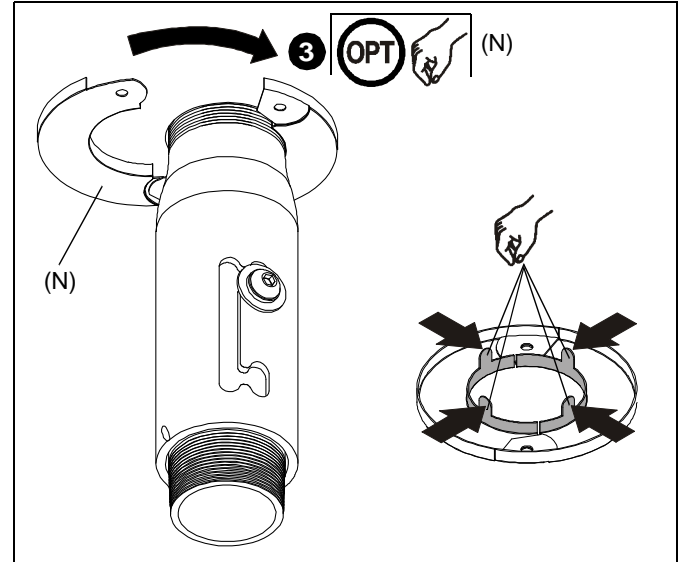

Figure 12
3. **OPTIONAL FOR INSTALLATION ABOVE EXISTING TILE:** Install NPT ring (N) on extension column below ceiling tile. (See Figure 12) If necessary, bend four tabs inward to secure ring to column.